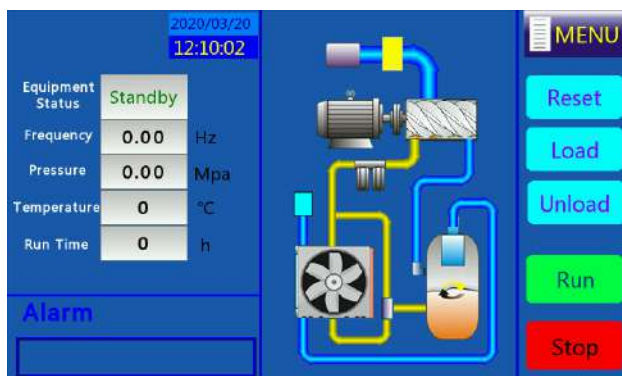

Figure 4-3 Working interface
Step 2 Click **Enter IN** to enter the working environment interface, as shown in Figure 4-3.